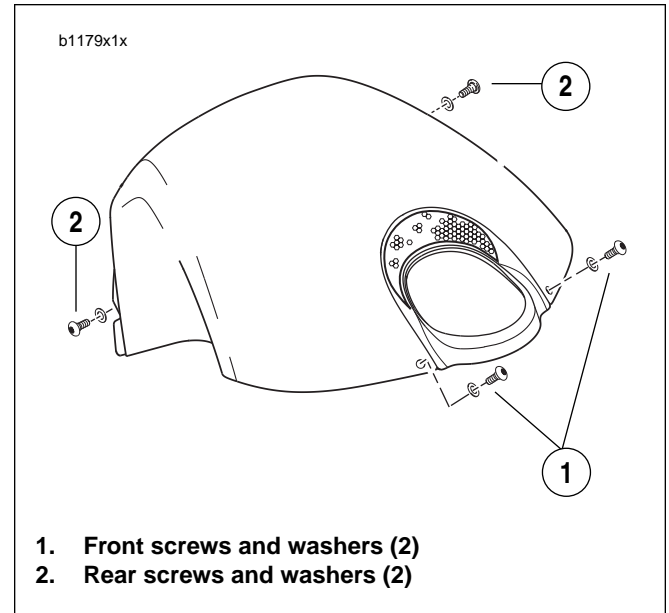

Figure 2-126. Intake Cover
2. See Figure 2-126. Remove front (1) and rear (2) fasteners and nylon washers.
2. See Figure 2-126. Start the front 2 fasteners (1) and nylon washers.